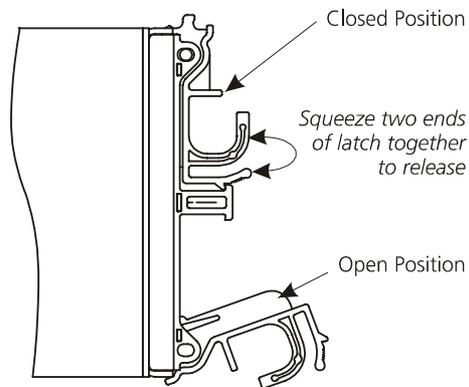

Figure 2–13 RAID Module Latch Operation
- 3 Cam the module home by manually closing the latches, see Figure 2–14.